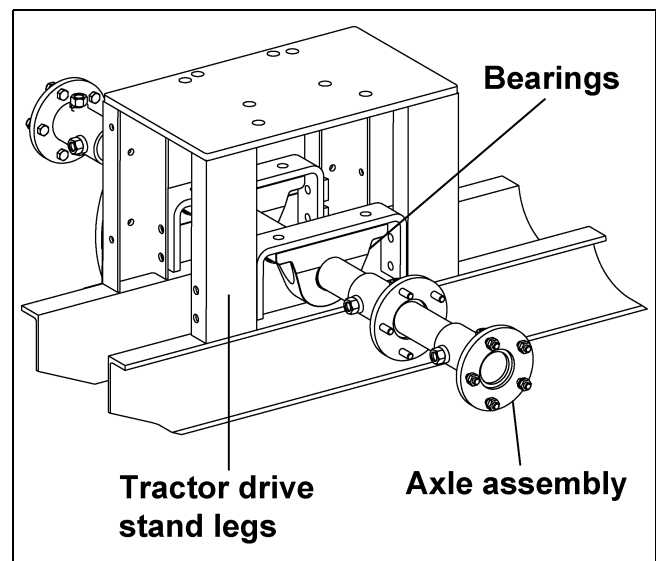

Figure 5J
- Slide the axle assembly between the legs of the tractor drive stand as shown in Figure 5J.
- Rotate the pillow block bearings until the bases are facing up. (See Figure 5J.)